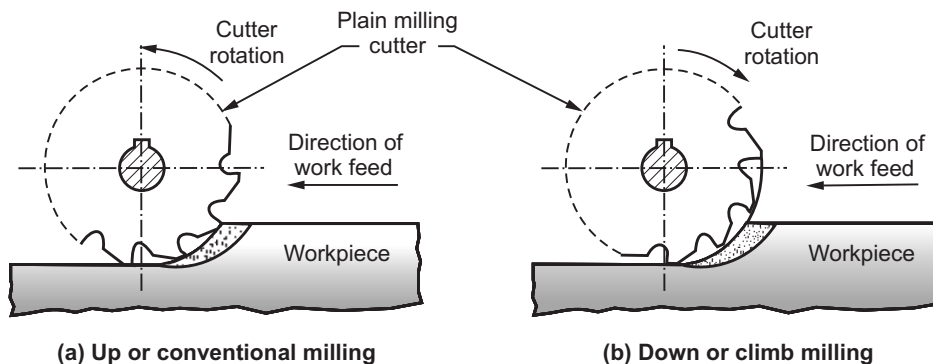

**Fig. 5.22 : Plain or slab milling**
- It is used for machining a flat, plain, horizontal surface which is parallel to the axis of cutter. Refer Fig. 5.22.